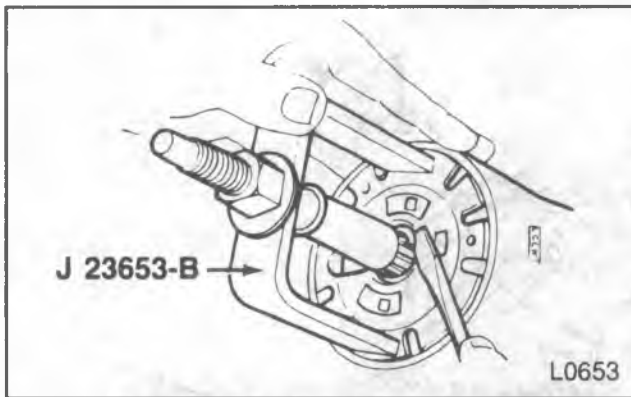

Figure 11—Retaining Ring Removal
↔ Remove or Disconnect (Figures 11 through 13)
- Screw the center post of J 23653-B onto the steering shaft as far as it will go. Compress the lock plate by turning the center post nut clockwise. Pry the retaining ring out of the shaft (figure 11). Remove J 23653-B.